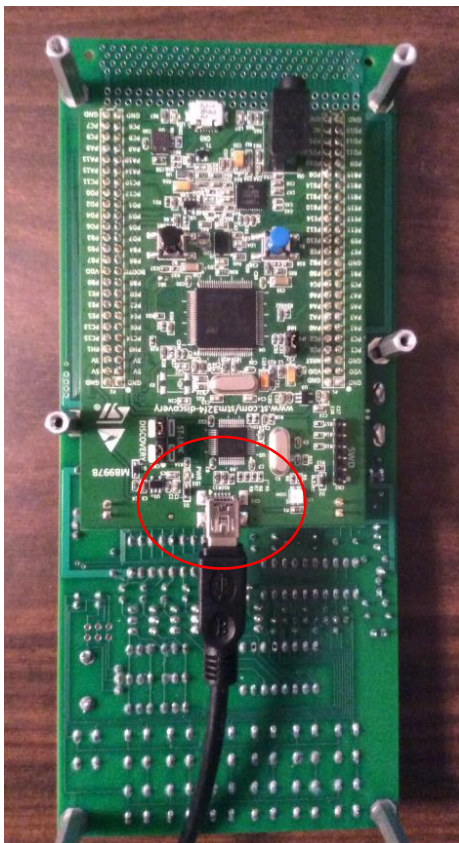

Figure 1: ST-LINK/V2
1. Connect the USB mini to the STLINK/V2 (See Fig. 1) USB connection and the other side to the PC